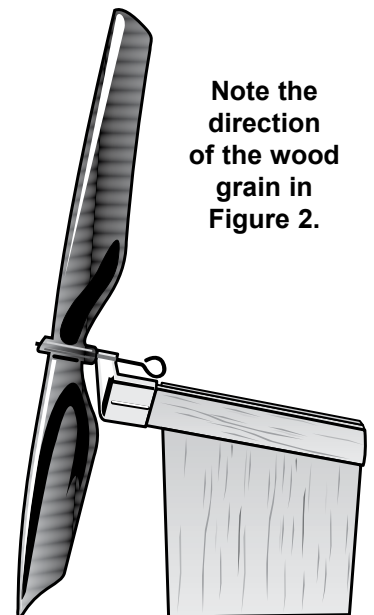

Figure 2
- Study Figure 2 to see one way to attach the propeller to the buggy. Unless using extra materials, cut off a small piece of the balsa wood sheet (chassis) to make the propeller stand parts. Note how the stand is angled at the top – this is so the rubber band will not catch on the propeller stand.